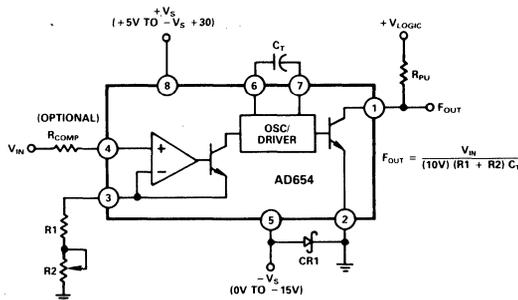
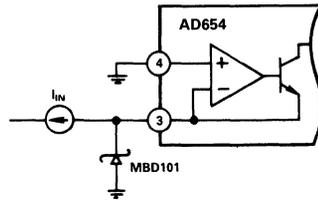

Figure 1. Standard V-F Connection for Positive Input Voltages
Figure 5. Input Protection
The AD654's block diagram appears in Figure 1. A versatile operational amplifier serves as the input stage; its purpose is to convert and scale the input voltage signal to a drive current in the NPN follower. Optimum performance is achieved when, at the full scale input voltage, a 1mA drive current is delivered to the current-to-frequency converter (an astable multivibrator). The drive current provides both the bias levels and the charging current to the externally connected timing capacitor. This "adaptive" bias scheme allows the oscillator to provide low nonlinearity over the entire current input range of 100nA to 2mA. The square wave oscillator output goes to the output driver which provides a floating base drive to the NPN power transistor. This floating drive allows the logic interface to be referenced to a level other than $-V_S$.
In the connection scheme of Figure 1, the input amplifier presents a very high (250M Ω) impedance to the input voltage, which is converted into the proper drive current by the scaling resistors at pin 3. Resistors R1 and R2 are selected to provide a 1mA full scale current with enough trim range to accommodate the AD654's 10% FS error and the components' tolerances. Full scale currents other than 1mA can be chosen, but linearity will be reduced; 2mA is the maximum allowable drive. The AD654's positive input voltage range spans from $-V_S$ (ground in single supply operation) to four volts below the positive supply. Power supply
As indicated by the scaling relationship in Figure 1, a 0.01 μ F timing capacitor will give a 10kHz full scale frequency, and 0.001 μ F will give 100kHz with a 1mA drive current. Good V/F linearity requires the use of a capacitor with low dielectric absorption (DA), while the most stable operation over temperature calls for a component having a small tempco. Polystyrene, polypropylene, or Teflon* capacitors are preferred for tempco and dielectric absorption; other types will degrade linearity. The capacitor should be wired very close to the AD654. In Figure 1, Schottky diode CR1 (MBD101) prevents logic common from dropping more than 500mV below $-V_S$. This diode is not required if $-V_S$ is equal to logic common.
The AD654 was designed to be used with a minimum of additional hardware. However, the successful application of a precision IC involves a good understanding of possible pitfalls and the use of suitable precautions. Thus + V_{IN} and R_T pins should not be driven more than 300mV below $-V_S$. Likewise, Logic Common should not drop more than 500mV below $-V_S$. This would cause internal junctions to conduct, possibly damaging the IC. In addition to the diode shown in Figures 1 and 2 protecting Logic Common, a second Schottky diode (MBD101) can protect the AD654's inputs from "below $-V_S$ " inputs as shown in Figure 5. It is also desirable not to drive + V_{IN} and R_T above + V_S . In operation, the converter will exhibit a zero output for inputs above (+ V_S – 3.5V). Also, control currents above 2mA will increase nonlinearity.